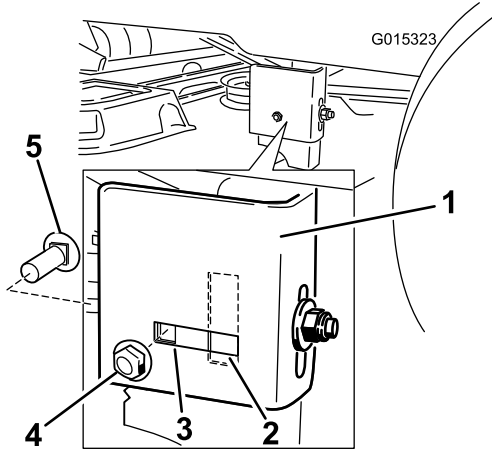

Figure 49
7. Move to the left side of the machine. Check if the side carriage bolt is in the fixed or slotted position (Figure 49).